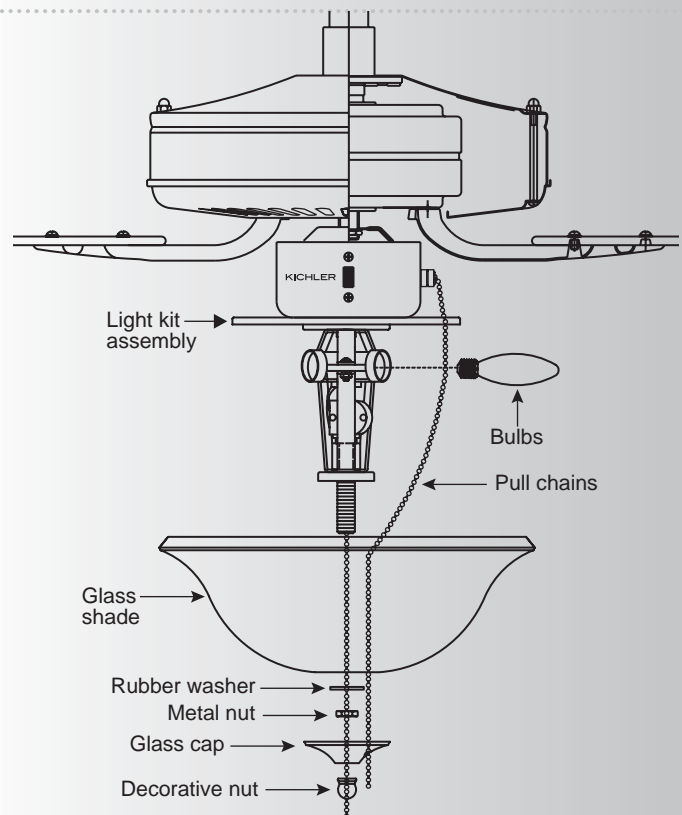

Fig. 3
1. Install 3, 60 watt candelabra bulbs (not included). (Fig. 3)
2. Remove the decorative nut, glass cap, metal nut and rubber washer from the light kit. Place glass shade over the light kit stem, secure with the rubber washer, metal nut, glass cap and decorative nut. Do not overtighten. (Fig. 3)
3. Insert the 2 pull chain through the eyelet in the shade and cap. (Fig. 3)